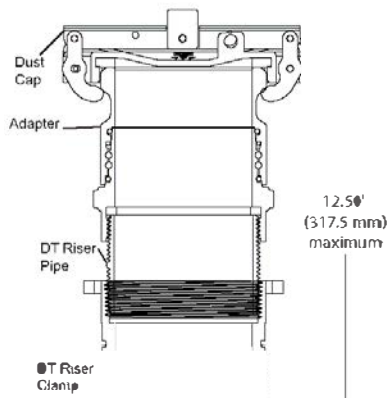

Figure 9: Drop Tube (DT) Riser Clamp Assembly Dimensions
1. Remove the DT riser clamp assembly (Figures 9 and 10) using the notched end of the double-ended installation tool (T-7106).